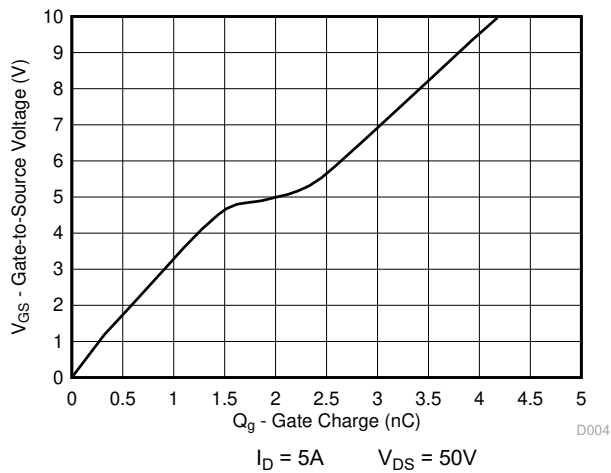

Figure 3-4. Gate Charge
- Changed test voltage V_{DS} from 100V : to 50V in Figure 3-4 4